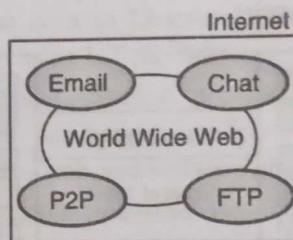

Fig. 5.1.1 : Internet and it's part
- As shown in Fig. 5.1.1 Internet can be considered as a huge container containing parts like WWW, Email, FTP, P2P, Chat, Telnet, etc.